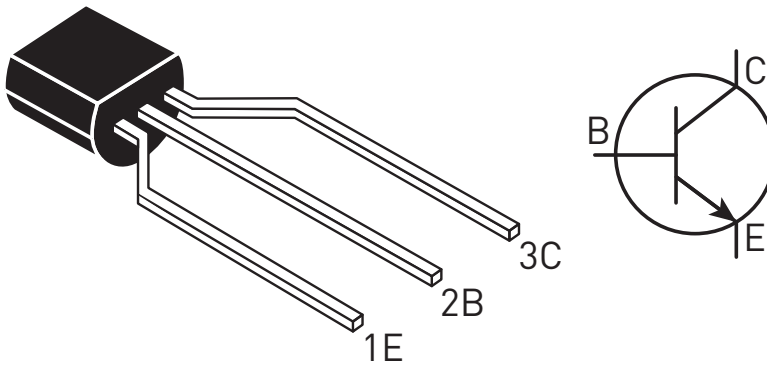

Figure 4-2: An NPN BJT
transistor to make a simple electrically controlled switch. Every BJT has three pins (see Figure 4-2): the emitter (E), the collector (C), and the base (B).